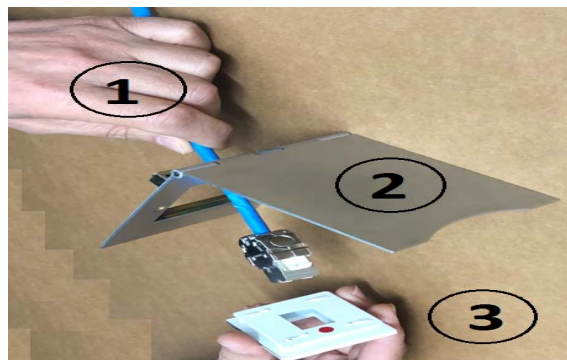

Figure 2.
**STEP#1-** To start assembly process, arrange the parts as shown in (Figure 2) below: